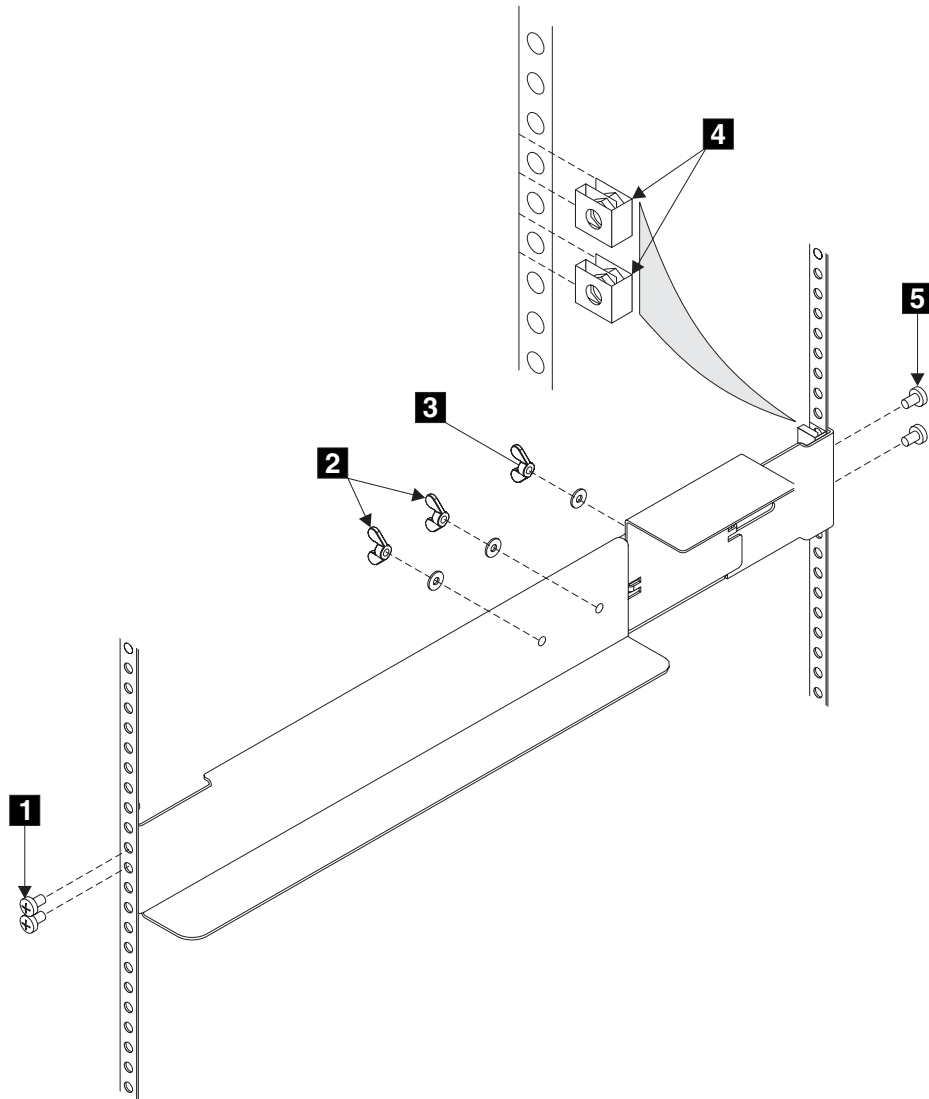

Figure 83. Installing support rails for a 2145 UPS into the rack
1. Attach nut clips **4** to the rack (see Figure 83 on page 122). These nut clips must align with the second and fourth holes of the support rail flange.